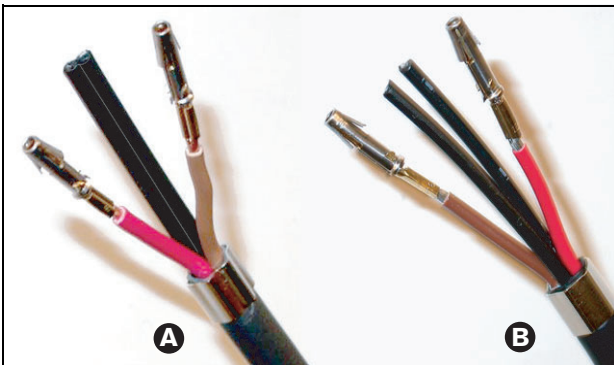

figure 22.15: Installed socket contacts
- 12 Repeat steps 10 and 11 for the other stripped, copper wire. See figure 22.15 for the result of this part of the cable-connector installation procedure.